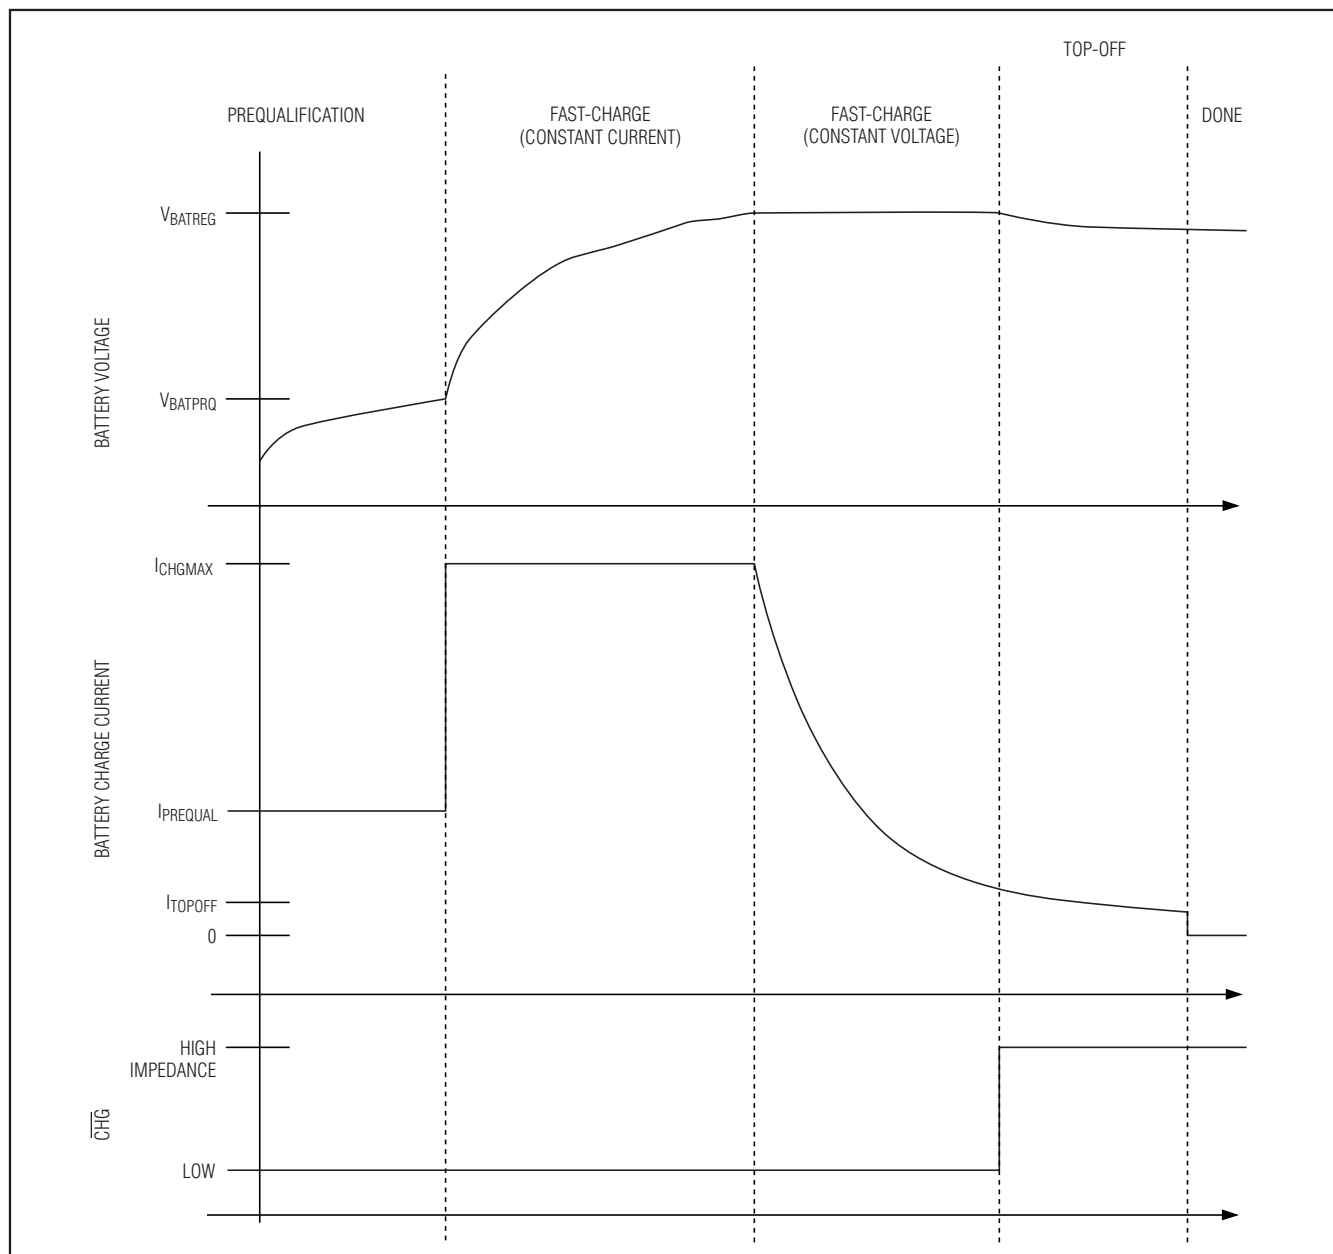
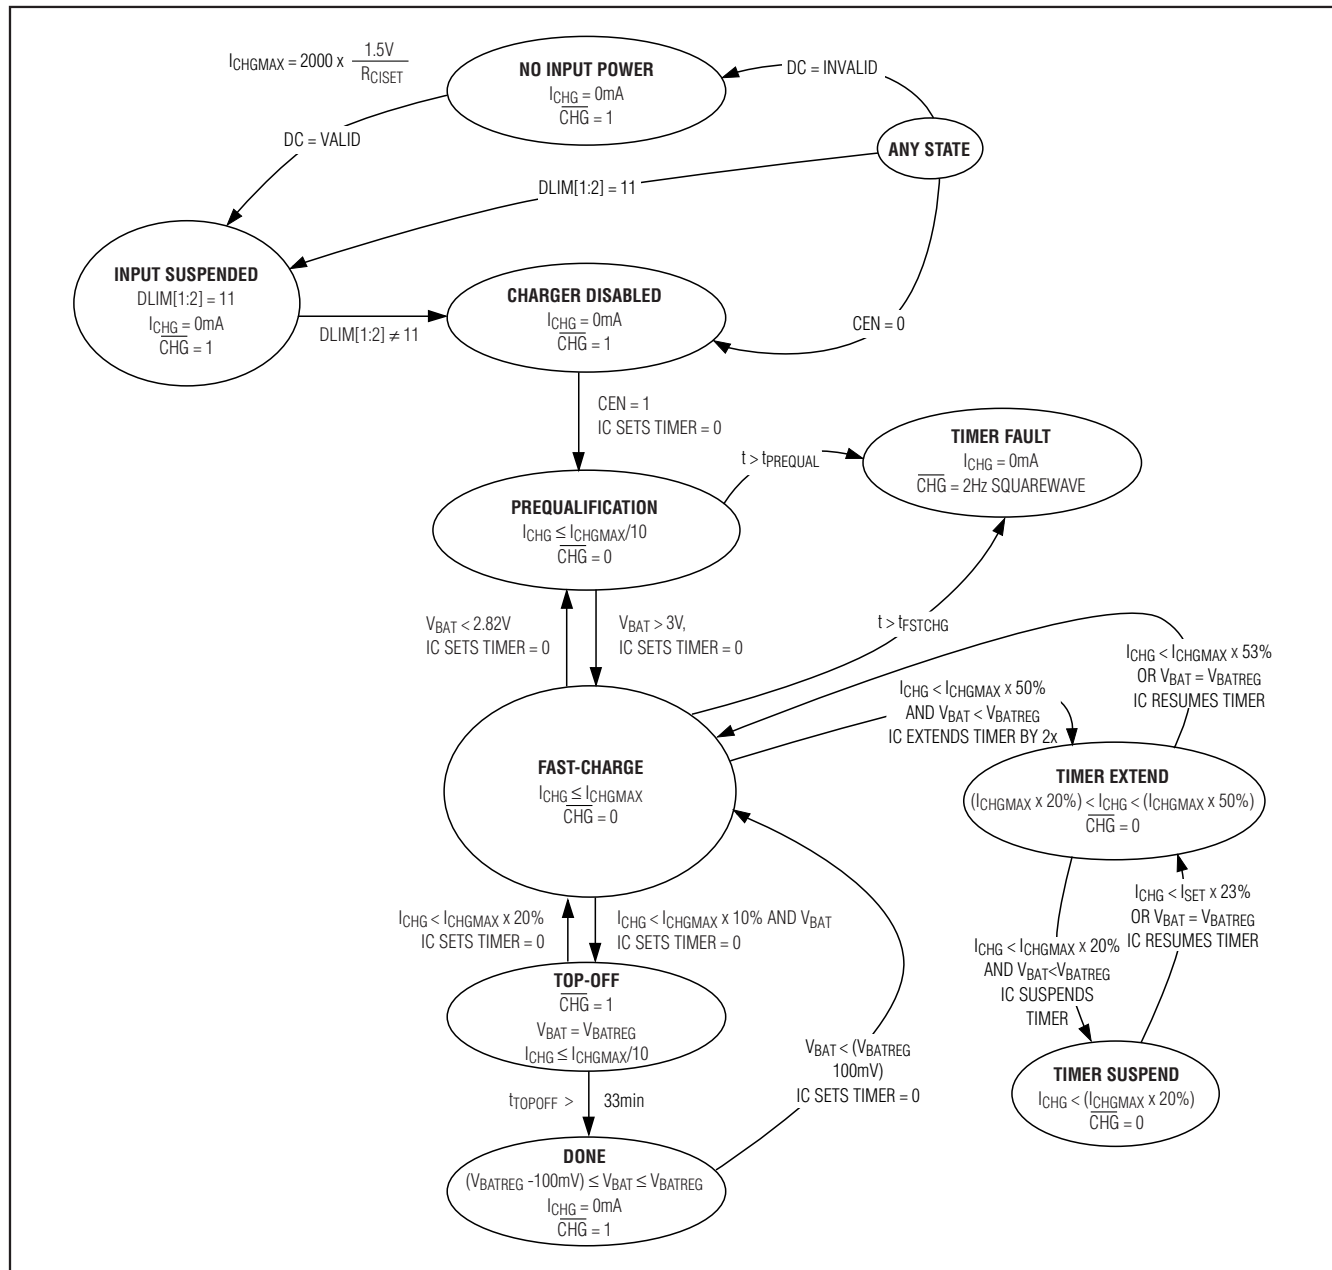

Figure 2. Li+/Li-Poly Charge Profile
Figure 3. Li+/Li-Poly Charger State Diagram
Figure 2 shows the typical Li+/Li-Poly charge profile for the MAX8819_{...}, and Figure 3 shows the battery charger state diagram.
- The battery charger stops charging in done mode as shown in Figures 2 and 3.
\overline{CHG} is an open-drain, active-low output that indicates charger status. As shown in Figures 2 and 3, \overline{CHG} is low when the charger is in its prequalification or fast-charge states. When a timer count is exceeded in either state, \overline{CHG} indicates the fault by blinking at a 2Hz rate and remains in that state until the charger is reset by CEN going low, removal of DC or setting $DLIM[1:2] = 11$.
As shown in Figure 3, a fault timer prevents the battery from charging indefinitely. In prequalification mode, the charge time is internally fixed to 33min.
While in the constant-current fast-charge mode (Figure 2), if the MAX8819_ reduces the battery charge current due to its internal die temperature or large system loads, it slows down the charge timer. This feature eliminates
nuisance charge timer faults. When the battery charge current is between 100% and 50% of its programmed fast-charge level, the fast-charge timer runs at full speed. When the battery charge current is between 50% and 20% programmed fast-charge level, the fast-charge timer is slowed by 2x. Similarly, when the battery charge current is below 20% of the programmed fast-charge level, the fast-charge timer is paused. The fast-charge timer is not slowed or paused when the charger is in the constant voltage portion of its fast-charge mode (Figure 2) where the charge current reduces normally.